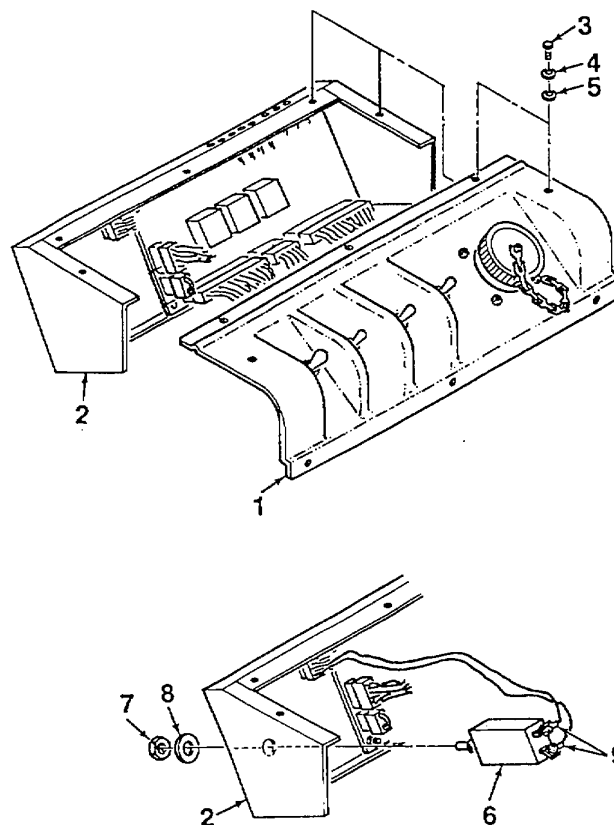

Figure 4-12. Circuit Breaker
1. Remove front panel (1, Figure 4-12) from enclosure (2) by removing five screws (3), lockwashers (4), and washers (5).
2. Tag and disconnect electrical wires (9) from circuit breaker (6).
3. Remove circuit breaker (6) from enclosure (2) by removing attaching nut (7) and washer (8).
1. Apply adhesive to threads of circuit breaker (6, Figure 4-12). Install circuit breaker onto rear panel (2) and secure using attaching nut (7) and washer (8).
2. Connect electrical wires (9) to circuit breaker (6).
3. Mate enclosure (2) to front panel (1). Secure front panel to enclosure using five screws (3), lockwashers (4), and washers (5).